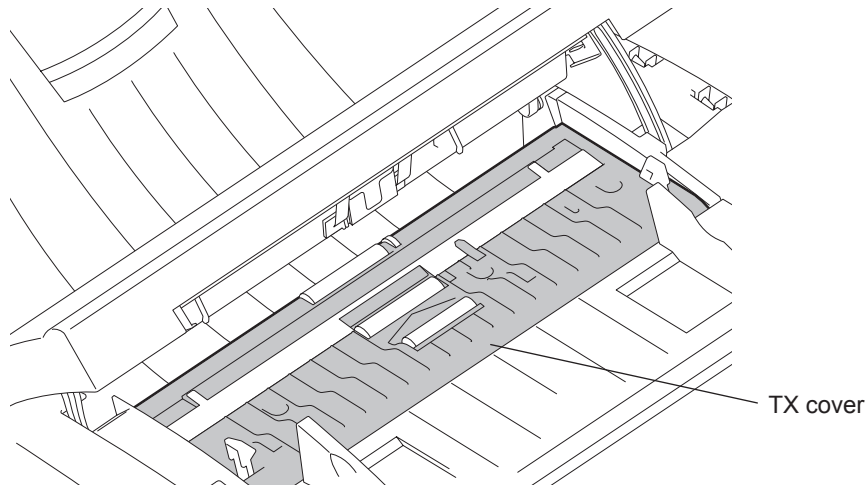

Fig. 10-8
- 7) TX cover (P.10-7 "Fig. 10-8")